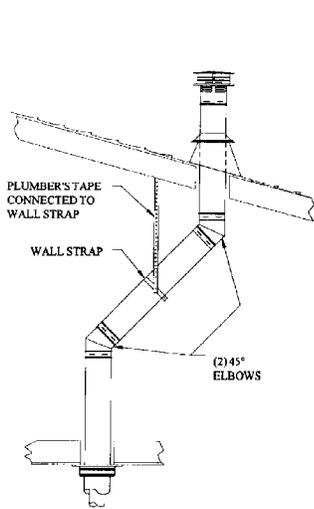

FIG. 18
Step 4. Lower the Support Box through the hole in the roof until the bottom of the Support Box protrudes at least 2 inches below the ceiling. (Fig. 18). Align the Support Box both vertically and horizontally with a level.